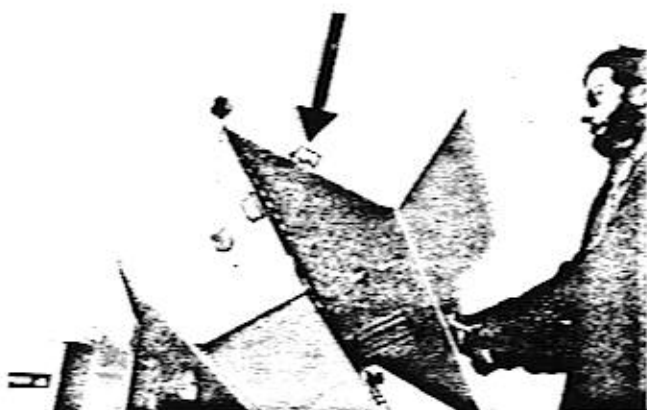

Figure 4-1
1. Console Cover (2). See Figure 4-1